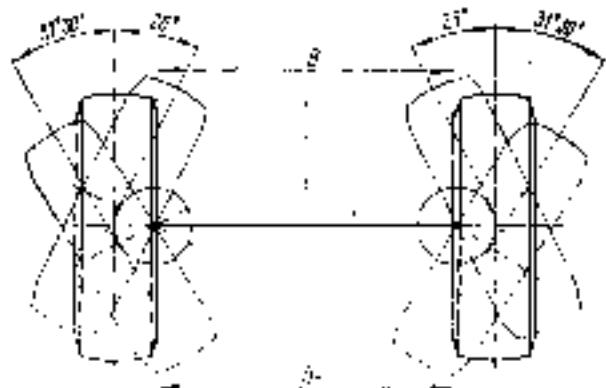

Fig. 102. Positions of Steerable Wheels.
Adjusting the front wheel toe-in. For checking the toe-in of the front wheels, see that the tyres have been inflated to the rated pressure and measure distance B_1 and B_2 (Fig. 102) across the wheel rims. For checking:
- using a measuring rule, check distance B_1 between the wheel rim heads in the rear section at the level of wheel centres and mark these points. Roll the truck so that these marks are in front and check distance B_2 . In front the distance must be 1–3 mm less than that at the rear. If the difference of the distance measured between B_1 and B_2 is beyond the limits, readjust by changing the length of the lateral steering rod after slackening the bolts on the lateral steering rod ends. On readjusting the toe-in, tighten the rod end fastening bolts and check angles of turn of the wheels; the data of these angles are given in Fig. 102. Angles of turn are limited by thrust bolts.